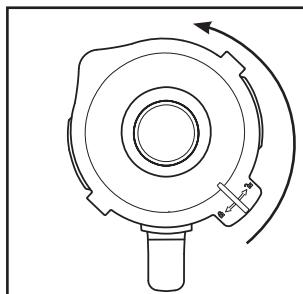

Fig. 1
- 1) Remove the blender ③ from the motor block ⑥ in a vertical, upward motion.
- 2) Remove the lid ② by rotating it anticlockwise towards position ⑦ (see Fig 1) until you can pull it upwards.
- 3) Fill the blender ③ to at least to the lowest line of the scale ⑧ and at most to the MAX mark. For optimum results, we recommend the following maximum filling quantities:
- 1) Remove the blender ③ from the motor unit ⑥. For better stability, remove the lid ② by turning it anticlockwise towards position (see Fig 1) until you can pull it off upwards.